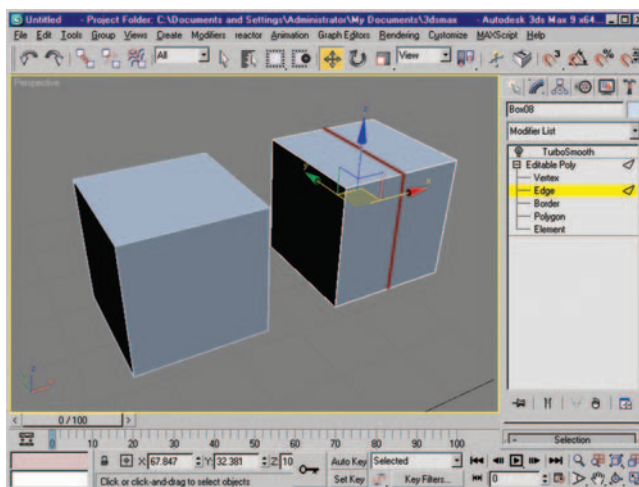

Figure 6.8 New edge loop after using the Connect function on our edge-ring selection.
- Click the Connect button to create a new edge loop on your model (Figure 6.8).